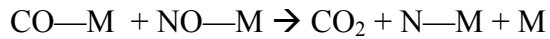

Figure 1.
- 1) The catalytic reaction ($A \rightarrow B$) takes place within a fixed bed containing spherical porous catalyst X22. Figure 1 shows the overall rates of reaction at a point in the reactor as a function of temperature for various entering total molar flow rates, F_{T0} .